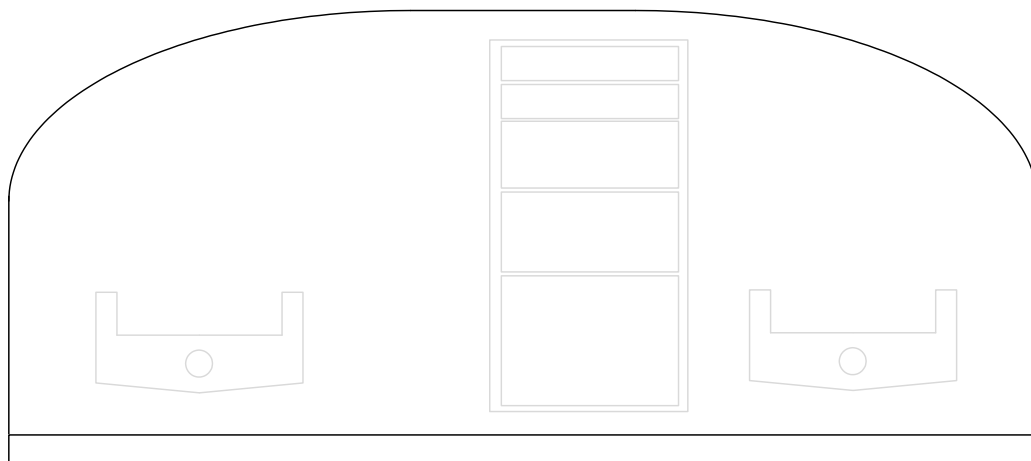

Figure 3 - Circuit Breaker and Switch Locations
- b) Draw in the circuit breaker and switch locations on instrument panel (Figure 3).